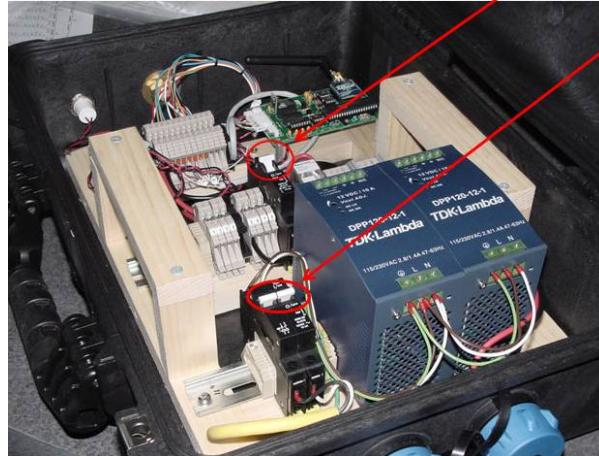

Figure 4: Internal of EchoCal control box. The red boxes highlight the location of the breakers that should be in the "on" position.
When you plug in each station's control box to a power source, a red light should illuminate on the outside of each pelican case. If the light does not illuminate, check to see if the circuit breakers on the inside of the control box are tripped. There should be 3 circuit breakers in the "on" position (Figure 4).
- In the Serial Port Configuration tab (Figure 4), click “Refresh ports” button